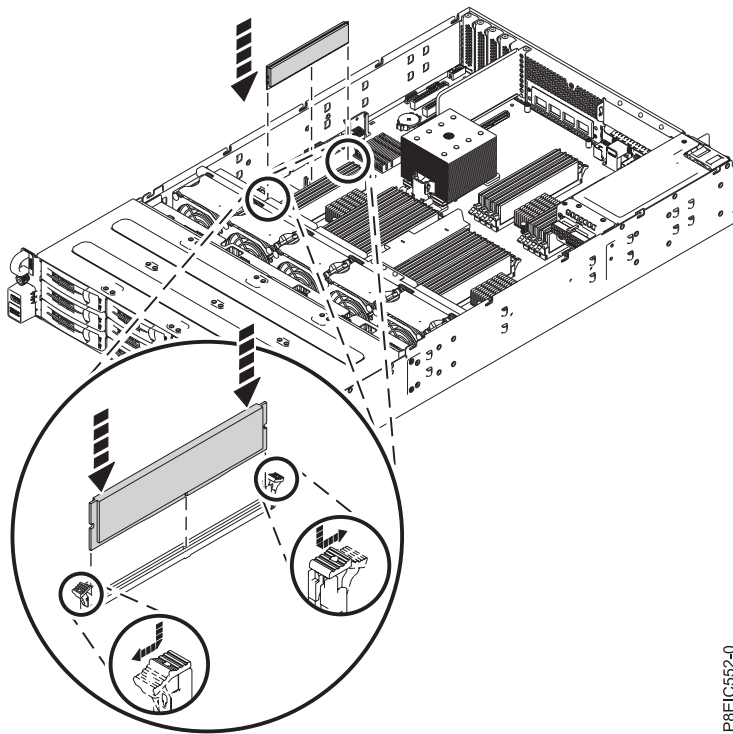

Figure 20. Opening the DIMM locking tabs and inserting memory
3. Push the locking tabs away from the socket, in the direction that is shown in Figure 20.